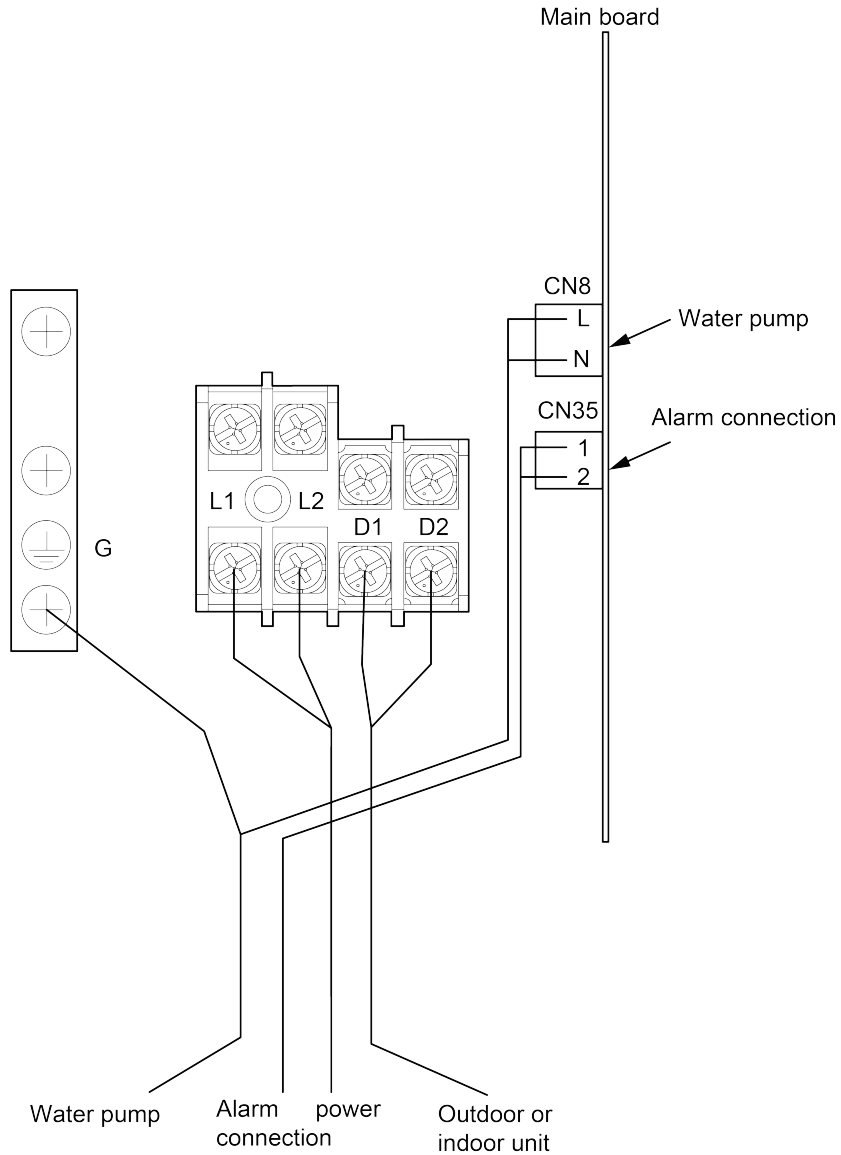

Fig. 5.7
- (1) Remove the panel.
- (2) Remove the electric box cover.
- (3) Connect the power cord of external water pump to the positions L and N of terminal CN8 of the main board; connect the alarm wire to the positions 1 and 2 of terminal CN35 (refer to Fig. 5.7).
- (4) Ake out the wiring clip from the package of accessories. Remove the original wiring clip from the electric box and secure the power cord and alerter wire with the new clip.